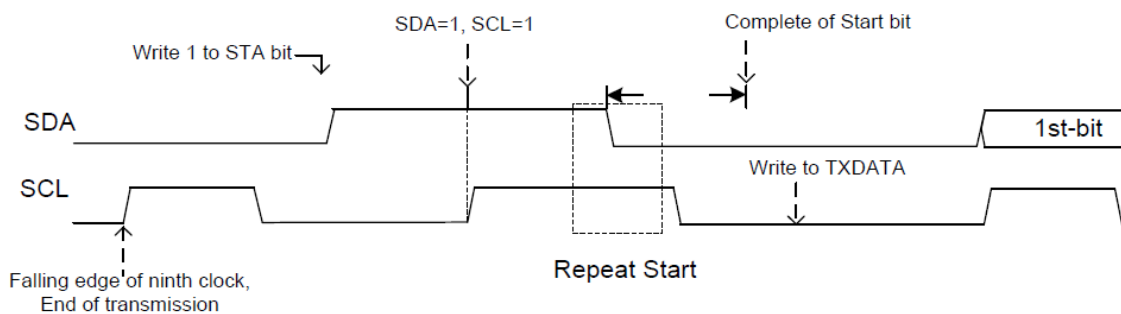

Figure 24–13: Repeat Start of I2C Protocol
4. STOP signal—The master can terminate communication by generating a STOP signal to free the bus. A STOP signal is defined as a low-to-high transition of SDA while SCL is at logical high (F). Note that a master can generate a STOP even if the slave has made an acknowledgment, at which point the slave must release the bus.
5. Instead of signaling a STOP, the master can repeat the START signal, followed by a calling command, (A in **Figure 24–13**). A repeated START occurs when a START signal is generated without first generating a STOP signal to end the communication. The master uses a repeated START to communicate with another slave or with the same slave in a different mode (transmit/receive mode), without releasing the bus.